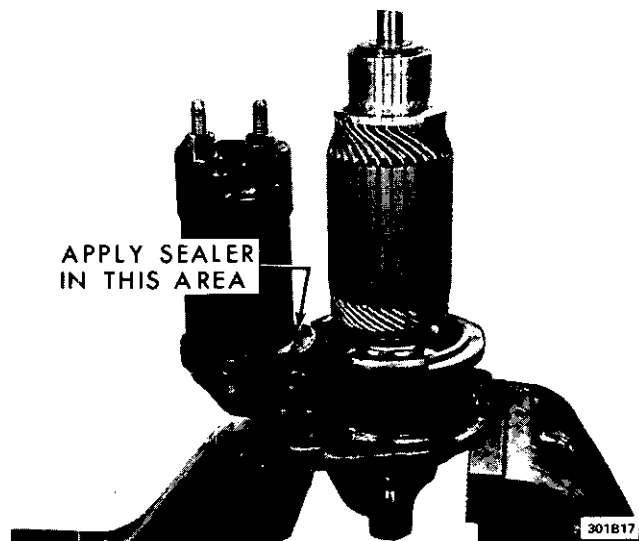

Figure 1B-17 Applying Sealer to Starter
7. Seal area between solenoid and frame. See Figure 1B-17.